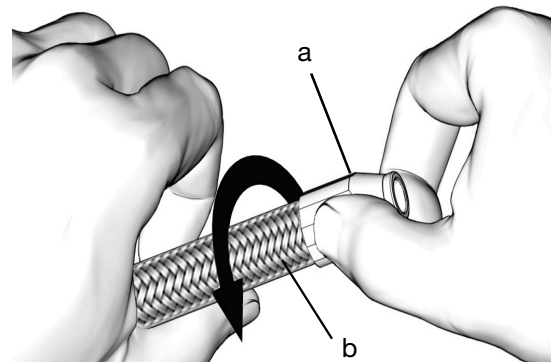

FIG. 62
4. Slide socket (a) over cut end of hose (b). Hand tighten socket to hose by turning socket counterclockwise into hose (FIG. 62).